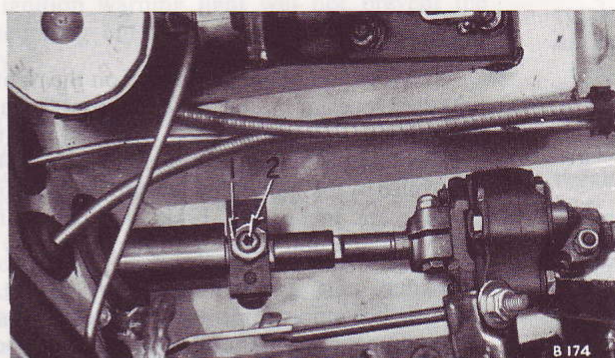

Fig. 53
1. Slacken the impact clamp lock nut, (1) Fig. 53, and unscrew the socket head screw (2) with a $\frac{1}{8}$ " A.F. socket key.